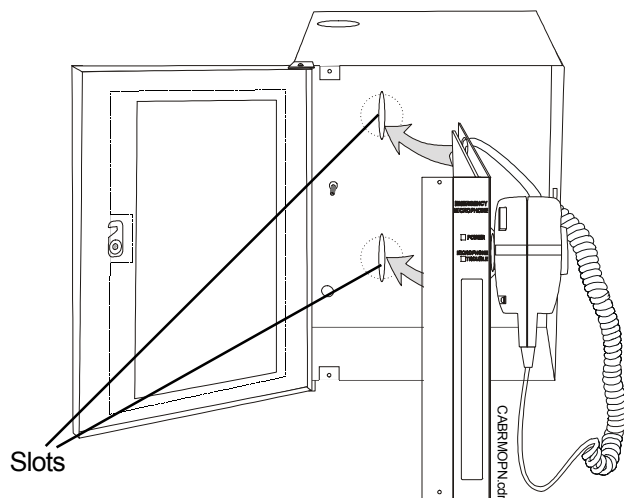

Figure 4a
4. Carefully slide the board into the cabinet until it rests in the slots on the back wall of the box (See Figure 4a).